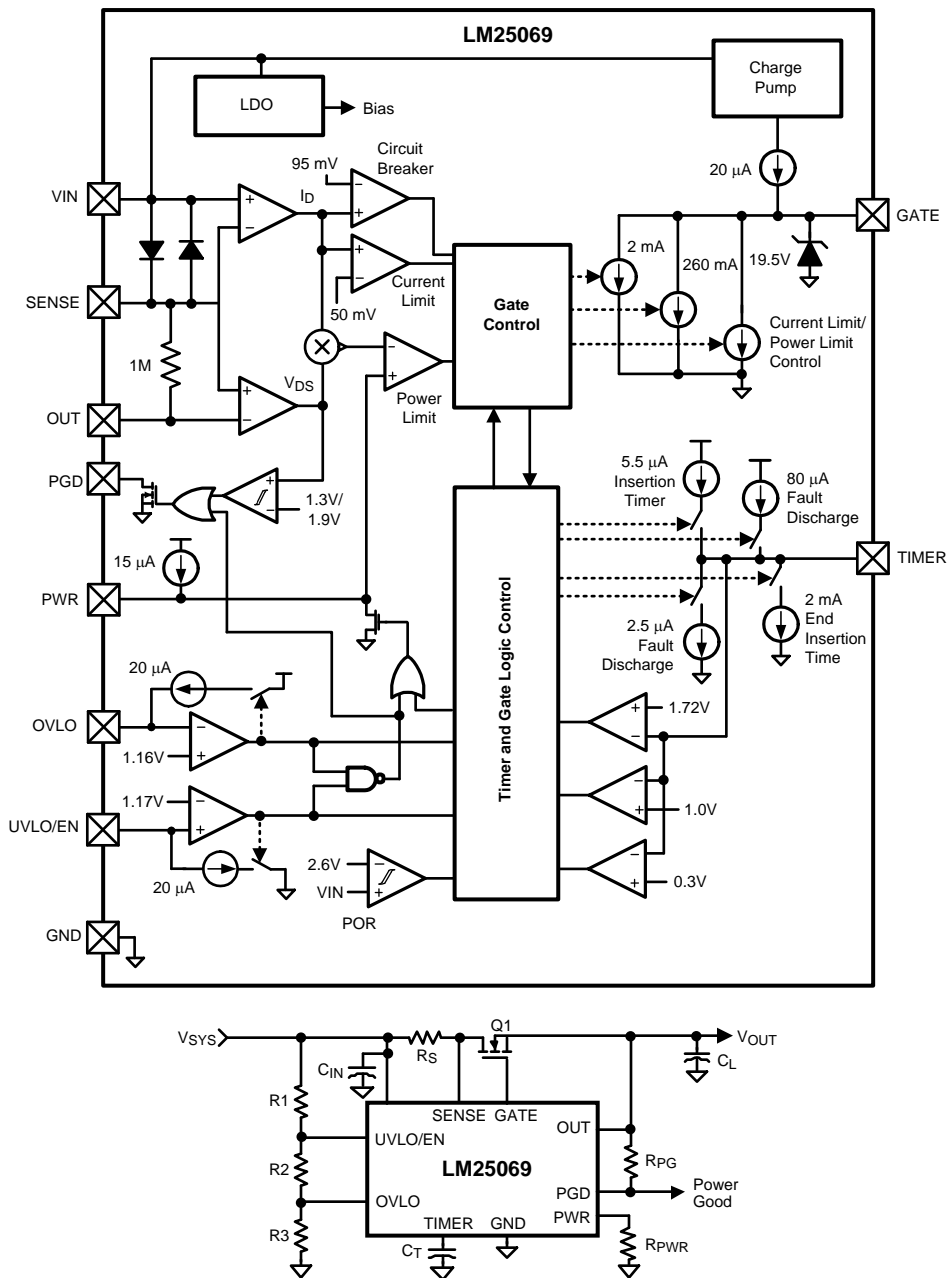
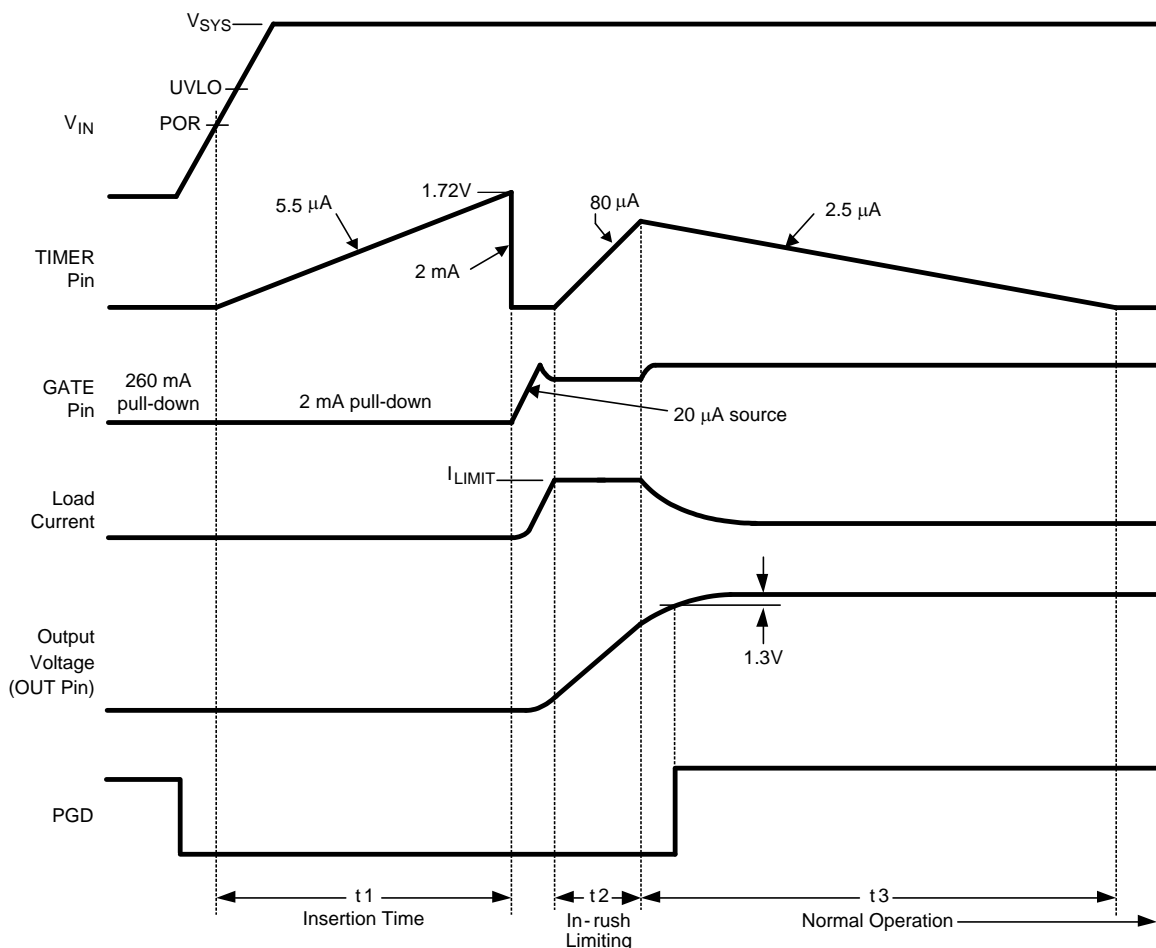

Figure 21. Basic Application Circuit
Figure 23. Power Up Sequence (Current Limit only)
The VIN operating range of the LM25069 is +2.9V to +17V, with a transient capability to 20V. Referring to the Block Diagram and Figure 21 and Figure 23, as the voltage at VIN initially increases, the external N-channel MOSFET (Q1) is held off by an internal 260 mA pull-down current at the GATE pin. The strong pull-down current at the GATE pin prevents an inadvertent turn-on as the MOSFET's gate-to-drain (Miller) capacitance is charged. Additionally, the TIMER pin is initially held at ground. When the VIN voltage reaches the POR threshold the insertion time begins. During the insertion time, the capacitor at the TIMER pin (C_T) is charged by a 5.5 μ A current source, and Q1 is held off by a 2 mA pull-down current at the GATE pin regardless of the VIN voltage. The insertion time delay allows ringing and transients at VIN to settle before Q1 is enabled. The insertion time ends when the TIMER pin voltage reaches 1.72V. C_T is then quickly discharged by an internal 2 mA pull-down current. The GATE pin then switches on Q1 when V_{SYS} exceeds the UVLO threshold. If V_{SYS} is above the UVLO threshold at the end of the insertion time, Q1 switches on at that time. The GATE pin charge pump sources 20 μ A to charge Q1's gate capacitance. The maximum voltage at the GATE pin is limited by an internal 19.5V zener diode.
As the voltage at the OUT pin increases, the LM25069 monitors the drain current and power dissipation of MOSFET Q1. In-rush current limiting and/or power limiting circuits actively control the current delivered to the load. During the in-rush limiting interval (t_2 in Figure 23) an internal 80 μ A fault timer current source charges C_T . If Q1's power dissipation and the input current reduce below their respective limiting thresholds before the TIMER pin reaches 1.72V the 80 μ A current source is switched off, and C_T is discharged by the internal 2.5 μ A current sink (t_3 in Figure 23). The in-rush limiting interval is complete when the voltage at the OUT pin increases to within 1.3V of the input voltage (V_{SYS}), and the PGD pin switches high.
A charge pump provides the voltage at the GATE pin to enhance the N-Channel MOSFET's gate. During normal operating conditions (t_3 in Figure 23) the gate of Q1 is held charged by an internal 20 μA current source. The voltage at the GATE pin (with respect to ground) is limited by an internal 19.5V zener diode. See the graph GATE Pin voltage. Since the gate-to-source voltage applied to Q1 could be as high as 19.5V during various conditions, a zener diode with the appropriate voltage rating must be added between the GATE and OUT pins if the maximum V_{GS} rating of the selected MOSFET is less than 19.5V. The external zener diode must have a forward current rating of at least 260 mA.
During the insertion time (t_1 in Figure 23) the GATE pin is held low by a 2 mA pull-down current. This maintains Q1 in the off-state until the end of t_1 , regardless of the voltage at VIN or UVLO.
Following the insertion time, during t_2 in Figure 23, the gate voltage of Q1 is modulated to keep the current or power dissipation level from exceeding the programmed levels. While in the current or power limiting mode the TIMER pin capacitor is charging. If the current and power limiting cease before the TIMER pin reaches 1.72V the TIMER pin capacitor then discharges, and the circuit enters normal operation.
The series pass MOSFET (Q1) is enabled when the input supply voltage (V_{SYS}) is within the operating range defined by the programmable under-voltage lockout (UVLO) and over-voltage lock-out (OVLO) levels. Typically the UVLO level at V_{SYS} is set with a resistor divider (R1-R3) as shown in Figure 21. Referring to the Block Diagram when V_{SYS} is below the UVLO level, the internal 20 μ A current source at UVLO is enabled, the current source at OVLO is off, and Q1 is held off by the 2 mA pull-down current at the GATE pin. As V_{SYS} is increased, raising the voltage at UVLO above its threshold the 20 μ A current source at UVLO is switched off, increasing the voltage at UVLO, providing hysteresis for this threshold. With the UVLO pin above its threshold, Q1 is switched on by the 20 μ A current source at the GATE pin if the insertion time delay has expired. See the Applications Section for a procedure to calculate the values of the threshold setting resistors (R1-R3). The minimum possible UVLO level at V_{SYS} can be set by connecting the UVLO pin to VIN. In this case Q1 is enabled after the insertion time.
Application Information (Refer to Figure 21)
A) Insertion Delay - Upon applying the system voltage (V_{SYS}) to the circuit, the external MOSFET (Q1) is held off during the insertion time (t₁ in Figure 23) to allow ringing and transients at V_{SYS} to settle. Since each backplane's response to a circuit card plug-in is unique, the worst case settling time must be determined for each application. The insertion time starts when VIN reaches the POR threshold, at which time the internal 5.5 μA current source charges C_T from 0V to 1.72V. The required capacitor value is calculated from: